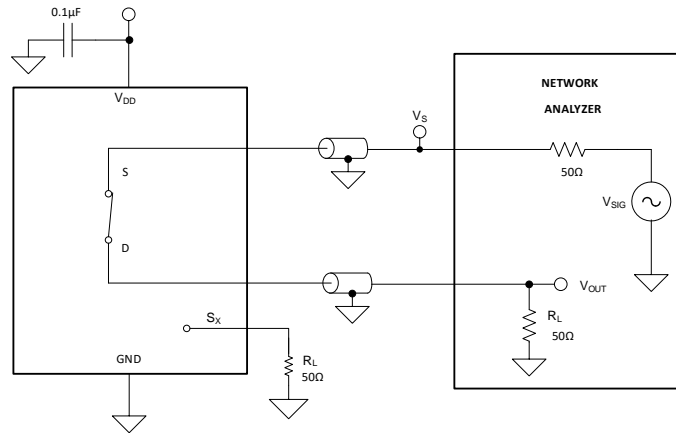

Figure 15. Bandwidth Measurement Setup
Bandwidth is defined as the range of frequencies that are attenuated by less than 3 dB when the input is applied to the source pin (Sx) of an on-channel, and the output is measured at the drain pin (D) of the device. Figure 15 shows the setup used to measure bandwidth.